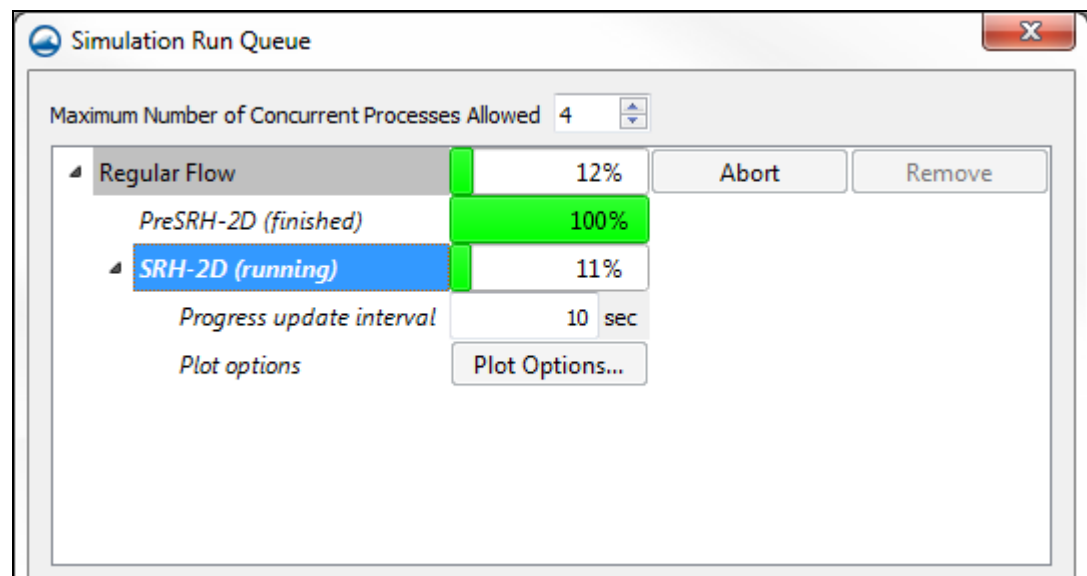

Figure 5 SRH-2D Simulation Run Queue
2. Expand the “Regular Flow” item in the top portion of the Simulation Run Queue dialog, then expand the “SRH-2D” item as showing in Figure 5.